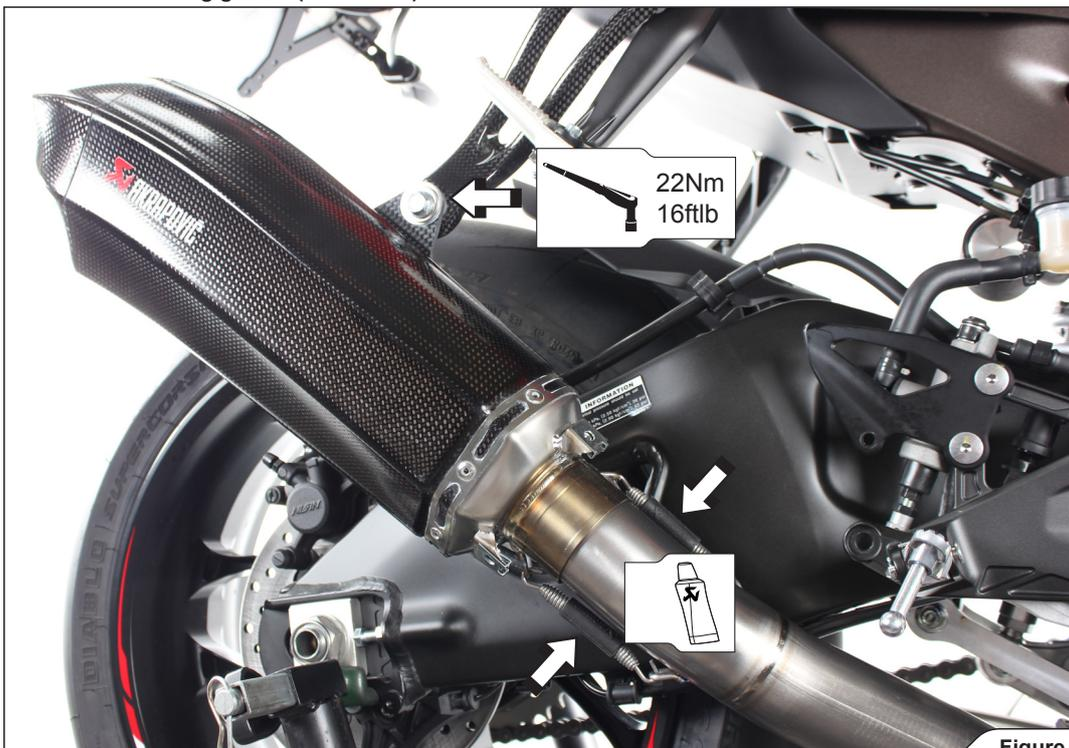

Figure 9
5. Position the muffler correctly and slide it onto the outlet of the link pipe. Align the muffler in respect to the motorcycle and tighten the muffler bracket to the carbon fibre bracket using bolt, washers and nut from Akrapović installation kit. Fix the muffler connection to the link pipe by adding Akrapović springs, as shown (Figure 9).